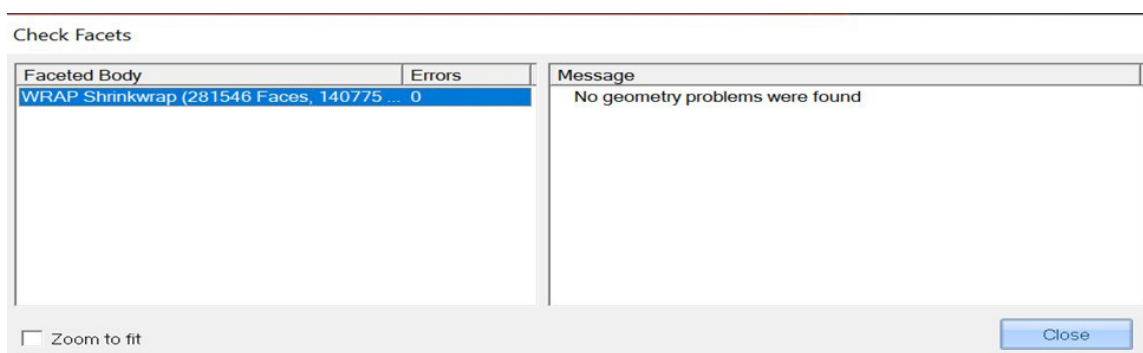

Figure 7: Checking facets after applying the “Shrink Wrap”
5. Select “Check Facets” to ensure there are no errors remaining, so the scan data is ready to be converted into CAD geometry (Figure 7).